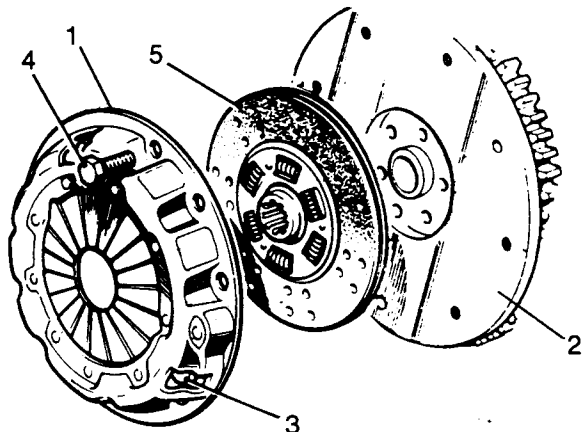

Fig H3.3
- (2) Refer to Fig H3.3. Mark the clutch cover (1) fitted position relative to the flywheel (2).
- (3) Do not disturb the three bolts in the apertures (3) in the clutch cover.
- (4) Remove the bolts (4) holding the clutch cover to the flywheel and remove the cover.
- (5) Withdraw the clutch driven plate (5).